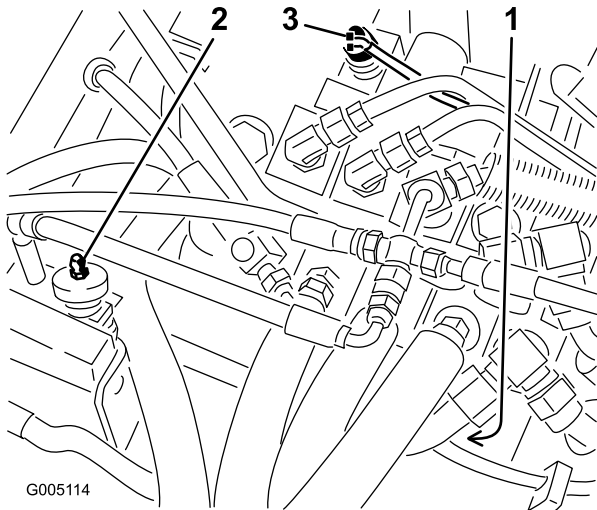

Figure 39
2. Remove the boot from the button end of the seat switch (Figure 39) and retain it for installation on the replacement switch. Unplug the switch connectors.
2. Unplug the switch connectors from the traction switch installed in the valve bank bonnet on the selector valve section (Figure 39).
2. Unplug the switch connectors from the end of the mow/lift switch installed in the valve bank bonnet (Figure 39).